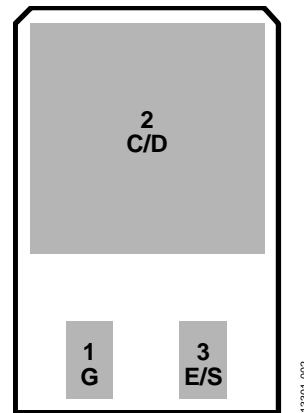

Figure 2. IGBT/MOSFET Footprint
- The available footprint can be populated with TO-252 MOSFETs or IGBTs with the pinout shown in Figure 2.